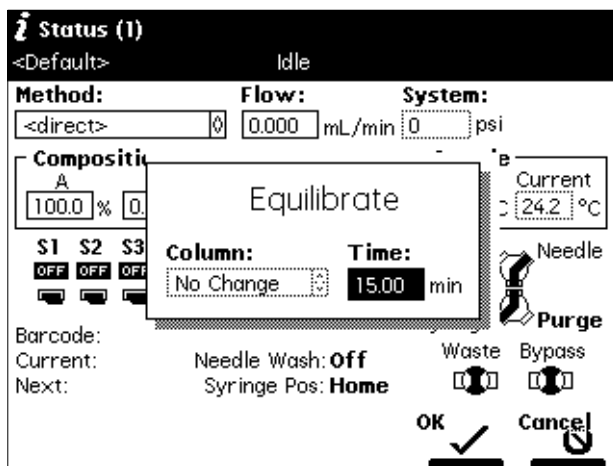

Figure 2-8 Equilibrate Dialog Box
4. Select **Equilibrate**, then press **Enter**. The Equilibrate dialog box appears (Figure 2-8).